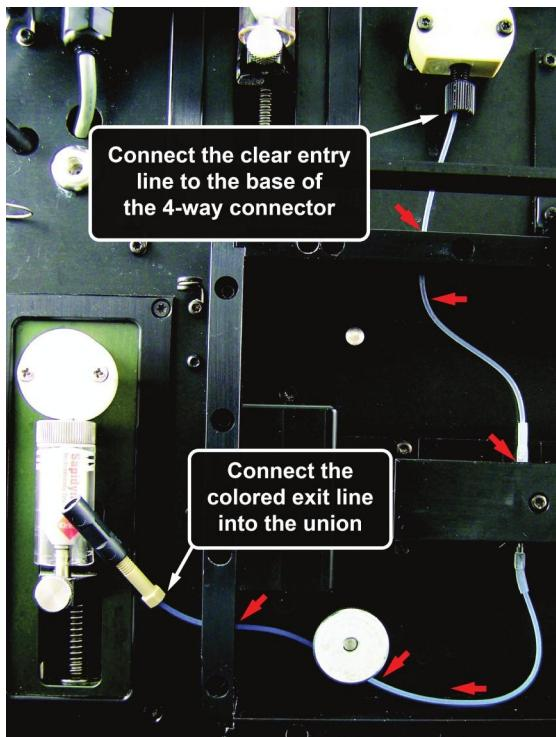

Figure 1: Installing a new Flow Cell into the Instrument.
- Route the clear *Entry Line* upwards through the *O-ring* (located on top of the *Optics House Frame*) and attach it to the bottom of the *4-way Connector* using a *White Ferrule* (347016) with a 1/4-28 *Black Nut* (346001) (**Figure 1**).
- Slide the colored *Exit Line* through the *O-ring* (located on the left side of the *Optics Housing Frame*) and connect it into the bottom of the *Union* using a 10-32 *Tan Nut* (346201) and a *Tan Ferrule* (347116) (**Figure 1**).